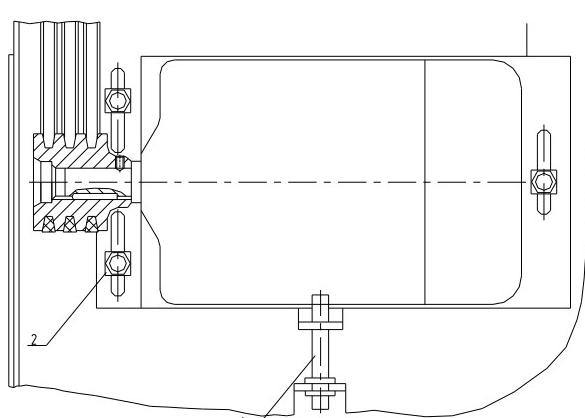

Fig.6-13. Adjustment the main drive V-belts tension
6.2.10. ADJUSTMENT THE MAIN DRIVE V-BELTS TENSION (SEE FIG.6-13)